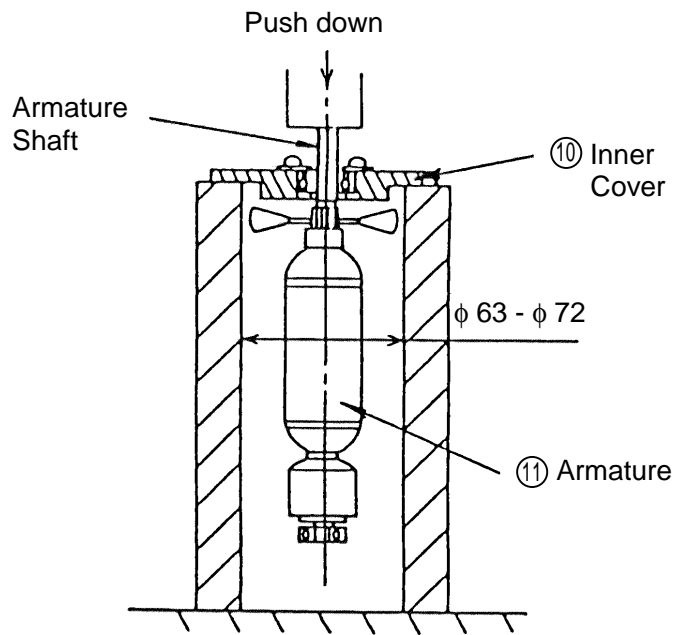

Fig. 3
- (1) Loosen the M5 x 20 Machine Screw (29) and remove Wheel Guard (A) Ass'y (31).
- (2) Remove the Brush Caps (47), and take out the Carbon Brushes (48).
- (3) Loosen the D5 x 25 Tapping Screws (1), and remove the Gear Cover (4). Separate the Inner Cover (10) from the Housing Ass'y (40) with a screwdriver, and remove the Inner Cover (10) together with the Armature (11).
- (4) Holding the Armature (11), loosen the M7 Special Nut (5) with a wrench, and remove the Pinion (6).
- (5) Support the Inner Cover (10) with a tubular jig (inner diameter ϕ 63 - ϕ 72 is recommended), and push down on the Armature shaft with a hand press to remove the Armature (11). (see Fig. 3)